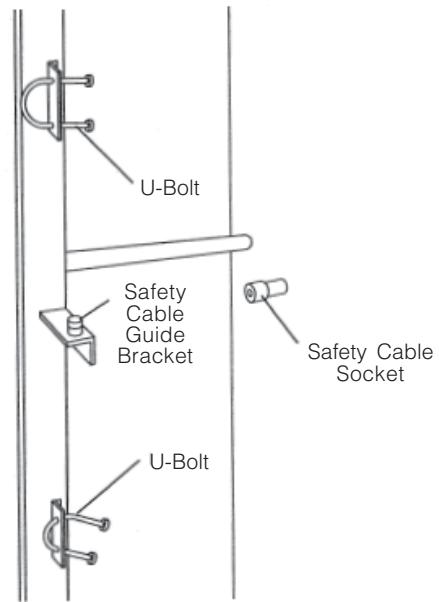

Figure 3-22. Attach U-Bolts
1. Loosely attach U-bolts to cabinet, two on each side of door opening(s) at waist height (see Figure 3-22).